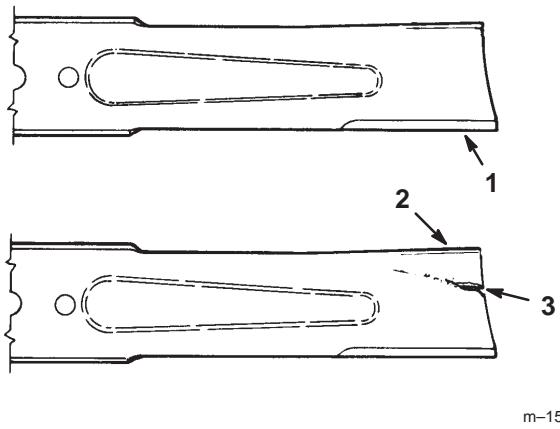

Figure 61
1. Inspect the cutting edges (Fig. 61). If the edges are not sharp or have nicks, remove and sharpen the blades. Refer to Sharpening the Blades on page 47.
2. Inspect the blades, especially the curved area (Fig. 61). If you notice any damage, wear, or a slot forming in this area (item 3 in Fig. 61), immediately install a new blade.